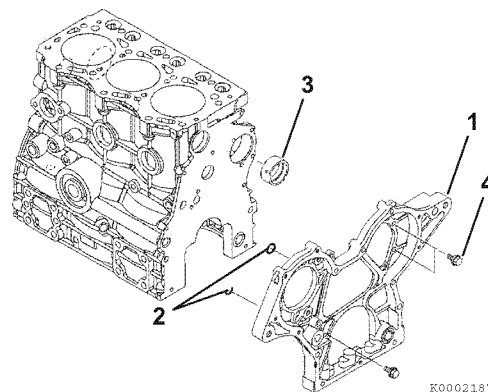

Figure 6-51
- Remove bolts (Figure 6-51, (4)).
- Remove the gear case (Figure 6-51, (1)) from the cylinder block.
- Inspect and measure the camshaft bushing. See Camshaft on page 6-6 for service limits. If damaged or worn beyond service limits, remove the camshaft bushing (Figure 6-51, (3)).
- Remove O-rings (Figure 6-51, (2)).